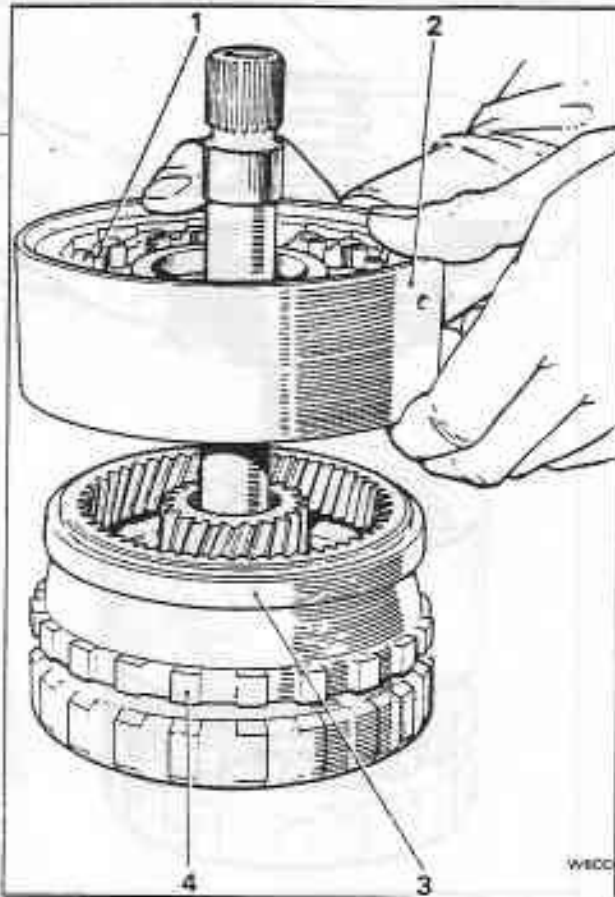

Fig. T19-3 Removing the reaction carrier assembly
19. Remove the reaction-carrier and roller clutch assembly from the output carrier (see fig. T19-3); remove the roller clutch assembly and spacer ring from the reaction carrier.